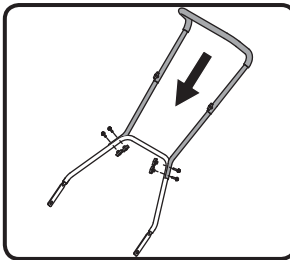

Fig. 2
- Secure the handle assembled in step 1 to the lower handle with four carriage bolts and four twist knobs (Fig. 2).